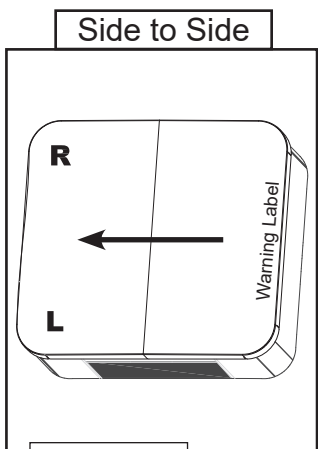

Figure 1.2
- Refer to (Figure 1.2) for the Left and Right cover lifter set orientation for (Side to Side) cover configuration:
- On a (Side to Side) cover configuration, the Left and Right cover lifter set will attach on left side of spa (Figure 1.2).